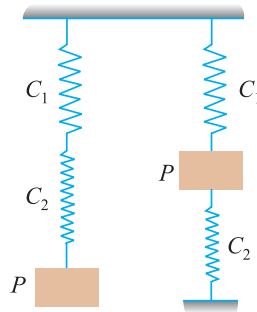

Fig. 26.4.
**Example 26.7.** A weight  $P$  is attached to springs of stiffness  $C_1$  and  $C_2$  in two different cases as shown in Fig. 26.4.
A simple pendulum, in its simplest form, consists of a heavy bob suspended at the end of a light inextensible, flexible string and the other end of the string is fixed at  $O$  as shown in Fig 26.4.